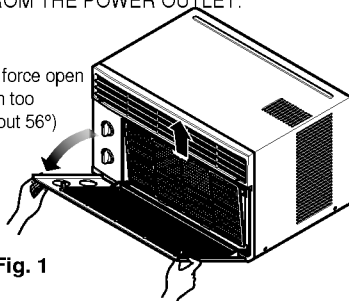

Fig. 1
1. Pull the inlet grille forward and pull out the air filter. (Fig. 1)